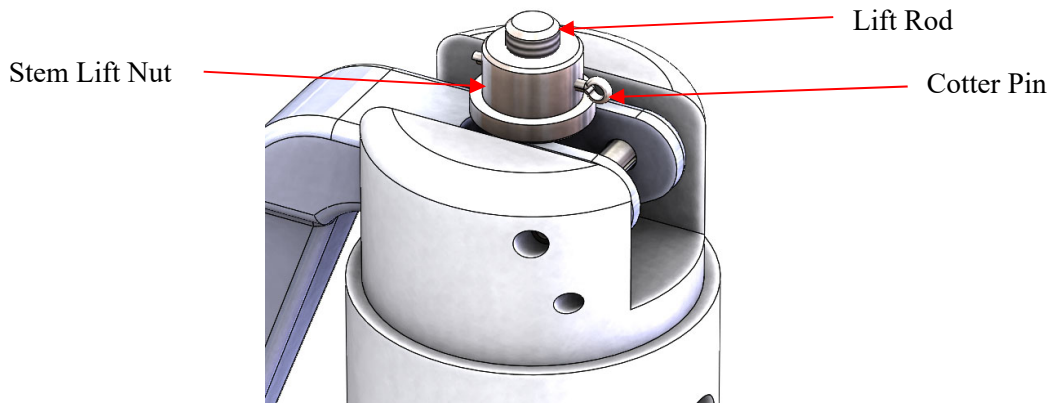

Figure 42: Upper Portion of Lift Lever Cap
2. Bend straight and pull out the cotter pin. See Figure 42.
3. Unscrew and remove the stem lift nut. See Figure 42.